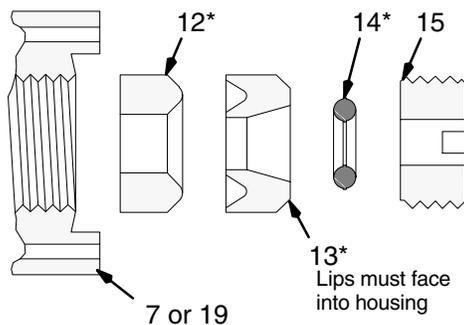

Fig. 2
- Guide the threaded end of the needle (9) through the bottom of the fluid housing (7 or 19). One at a time, install the needle packing (12*), fluid packing (13*) with the lips of the packing facing into the housing, and the o-ring (14*) over the needle and into the fluid housing. See Fig. 2.
- Hold the piston retainer (3) and torque the retainer nut (1) to 4 to 6 in-lb (0.45 to 0.68 N•m).
- Install the spring (18). Lubricate the retaining cap (2) threads with petroleum jelly and thread the retaining cap onto the piston housing (5).
- Torque the four screws (11) oppositely and evenly to 3 to 5 in-lb (0.34 to 0.56 N•m). If leakage occurs, retorque the screw to 8 in-lb (0.91 N•m) maximum.